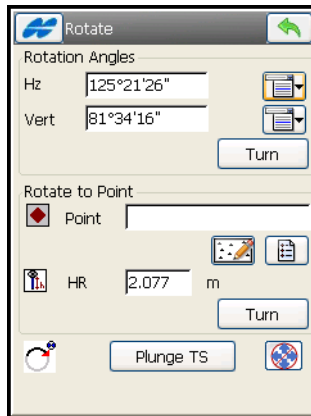

Figure 8-51. Rotate
-  – opens the **Rotate** dialog (Figure 8-51 on page 8-51), which allows the Total station to turn to various angles or points.
4. Enter the following rotation angles on the **Rotate** screen (Figure 8-51 on page 8-51).